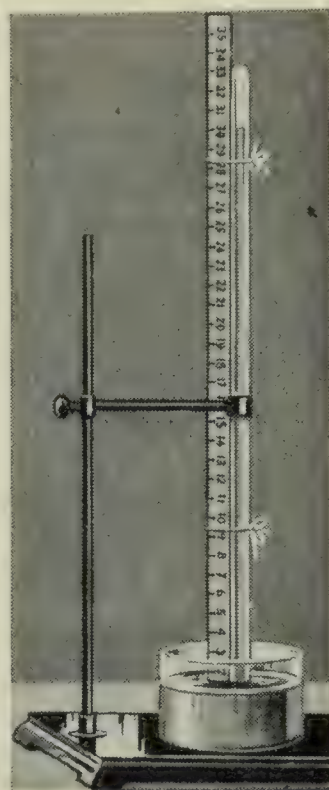

FIG. 206
*Experiment 53.* HOW IS A BAROMETER MADE AND USED IN MEASURING AIR-PRESSURE? Heat one end of a glass tube about three feet long in a flame until it melts and closes. When it is cool, fill it with mercury. Place your finger over the open end and invert it in a dish of mercury (Figure 206). Does the mercury completely fill the tube after your finger is removed? What is left between the mercury and the top of the tube?